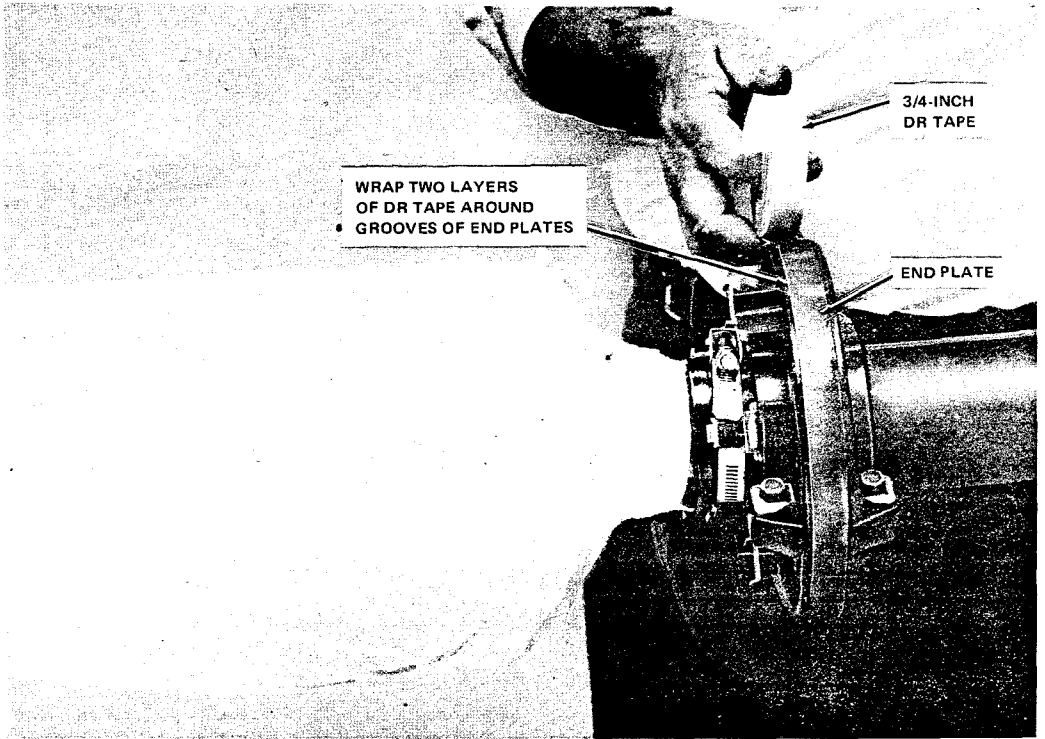
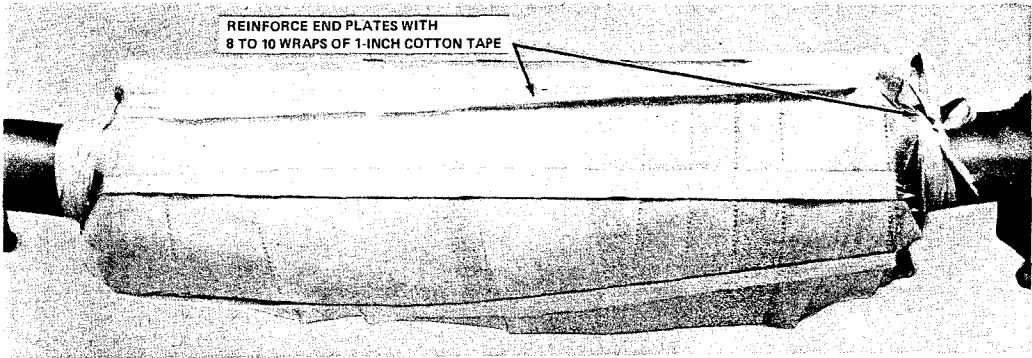

Fig. 11—Applying DR Tape to End Plate
Fig. 19—Completed Wrap Reinforced With Cotton Tape
7.01 If the splicing operation cannot be completed in the normal work day, it may be necessary to install a temporary watertight cover as shown in Fig. 11 through Fig. 19.